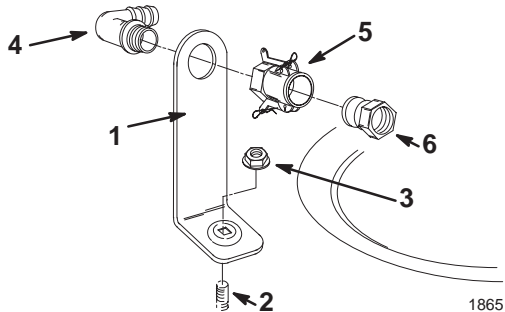

Figure 2
1. Remove the rubber cap from the stud on the tank strap (Fig. 2).
2. Place the fill receptacle bracket over the stud and secure it with a flange nut (5/16 inch) (Fig. 2).
3. Place the threaded end of the 90 degree elbow fitting through the bracket and thread the quick coupler onto it, securing it to the bracket (Fig. 2).
4. Install the hose adapter into the quick coupler (Fig. 2).